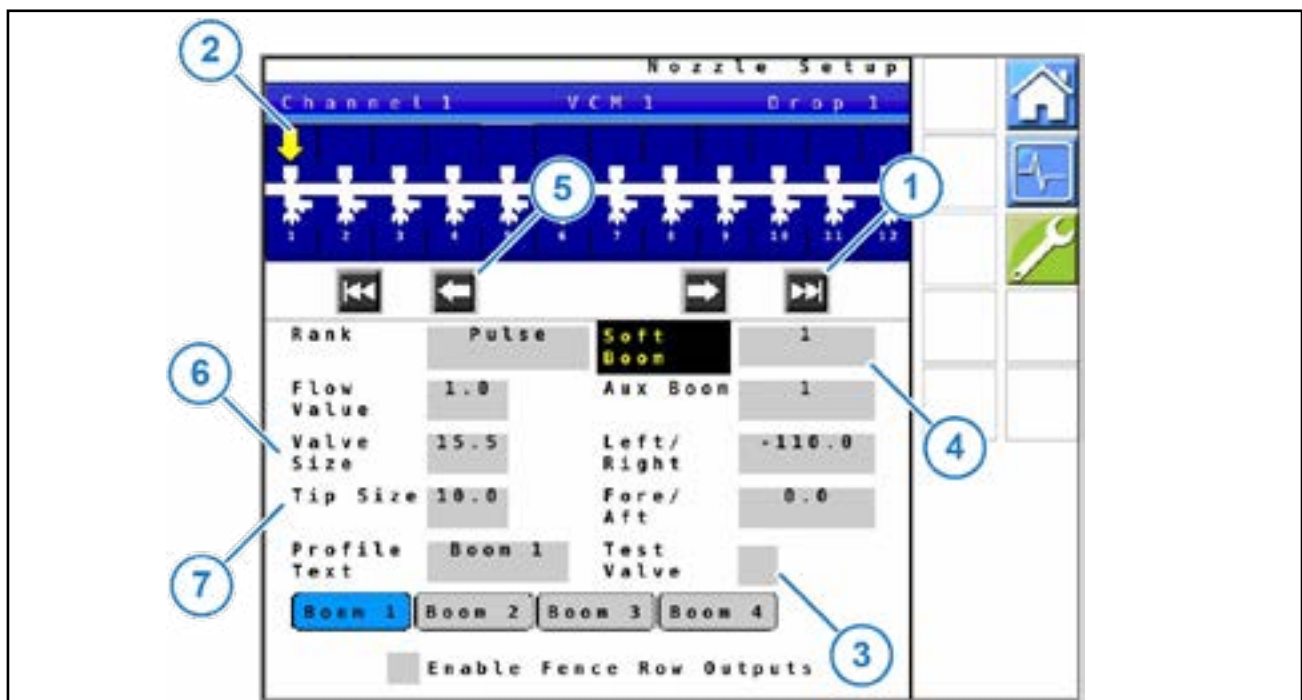

Figure 21: Nozzle Setup Screen
4. On the Nozzle Setup screen, select  (Figure 21, Item 1) to go to the next set of 12 nozzles in sequence.
5. Make sure that the yellow arrow (Figure 21, Item 2) is highlighting the correct nozzle.
6. To make sure that the correct valve is highlighted, select the box next to (Figure 21, Item 3) Test Valve. With an X in the box, the valve will pulse. Remove the X to stop the valve.
7. Select the box (Figure 21, Item 4) with the **Soft Boom** text to change the boom layout as desired. Refer to your machine's Integration instructions for exact soft boom configurations.
9. If necessary, change the valve size (Figure 21, Item 6) or tip size (Figure 21, Item 7).